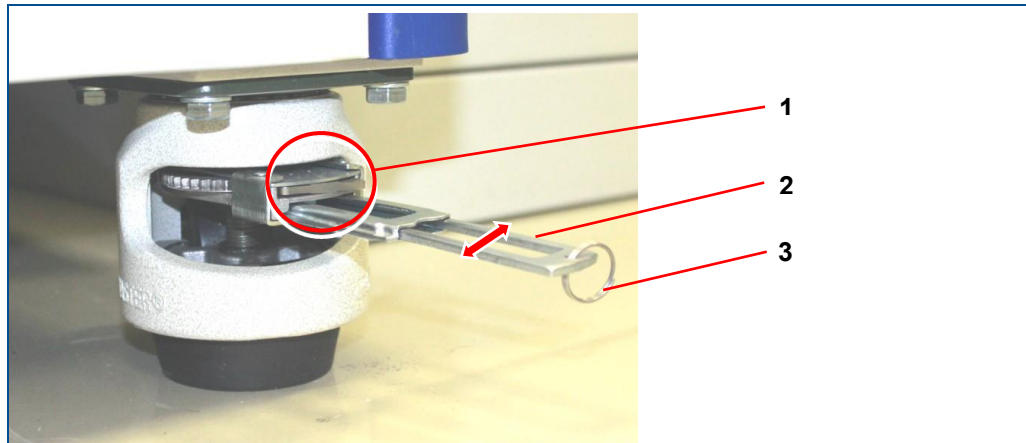

Fig. 33: Leveling foot
16. Remove the screws from the four fastening brackets (2) of the transport supports (1).
17. Remove both transport supports (1).
18. Push all rocker switches (1) (see figure 33) **to the left** to raise the leveling feet and thus unlock the leveling feet.
19. Adjust all leveling feet using the adjustment levers (3) (see figure 33) until the system stands on all four wheels.
20. Push the adjustment levers (2) (see figure 33) back into their resting positions.